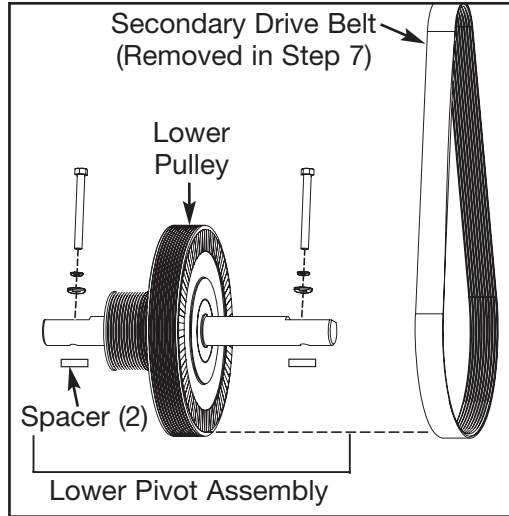

Figure 8
B. Remove the lower pivot assembly out of the secondary belt and from the frame. See Figure 8.